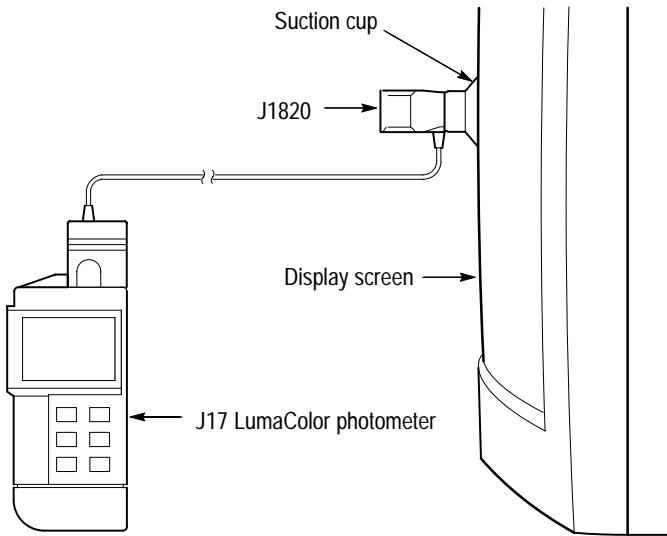

Figure 1–27: J1820 setup for display chromaticity measurements
3. Attach the suction cup to the J1820, and position the J1820 on the display. See Figure 1–27.